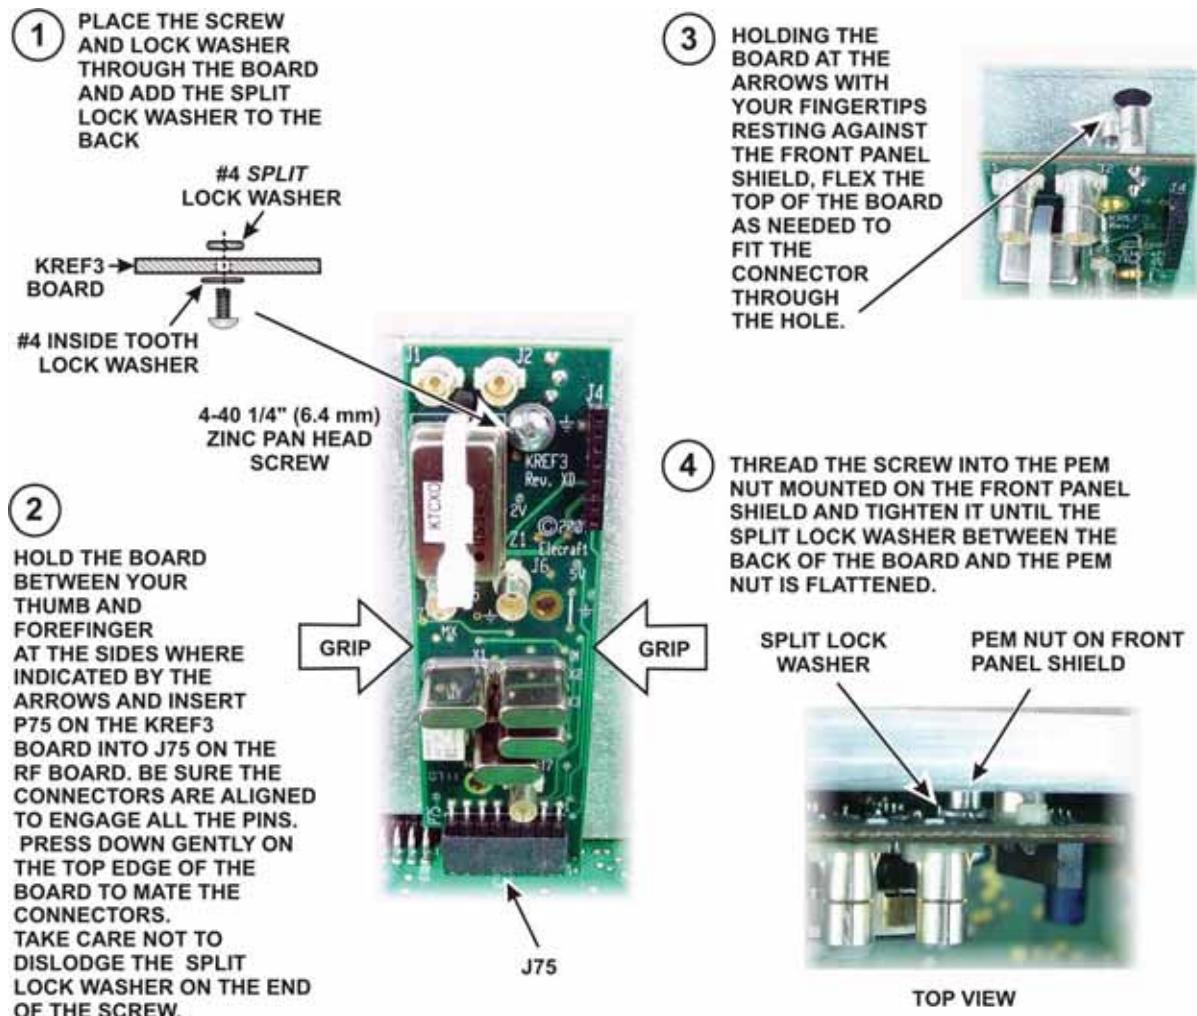

Figure 70. Installing KREF3 Board.
- Install the KREF3 board on the back side of the front panel shield as shown in Figure 70. The board plugs into J75 just behind the shield. Be certain you use a split lock washer between the KREF3 board and the PEM nut attached to the shield. An inside tooth washer may short out nearby circuit traces.